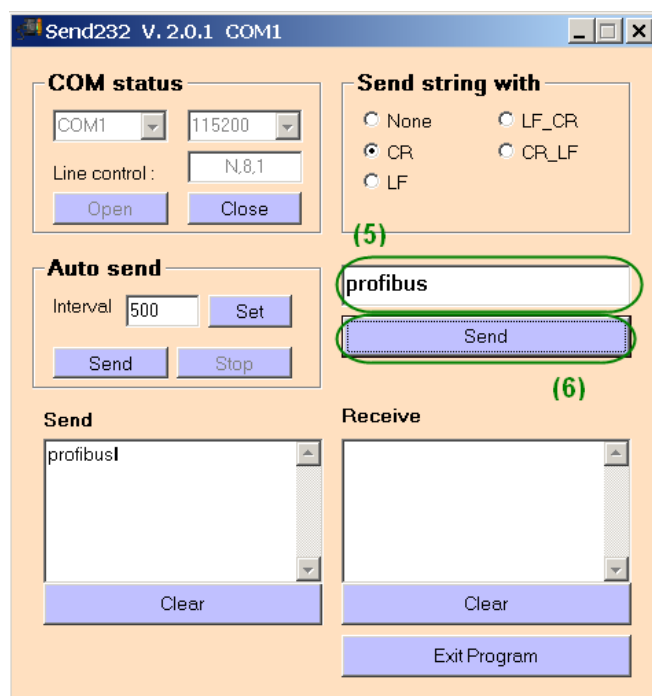

Figure 25: Sending a string to the converter
- 5) Type “profibus” in the text field above the “Send” button (*Figure 25*).